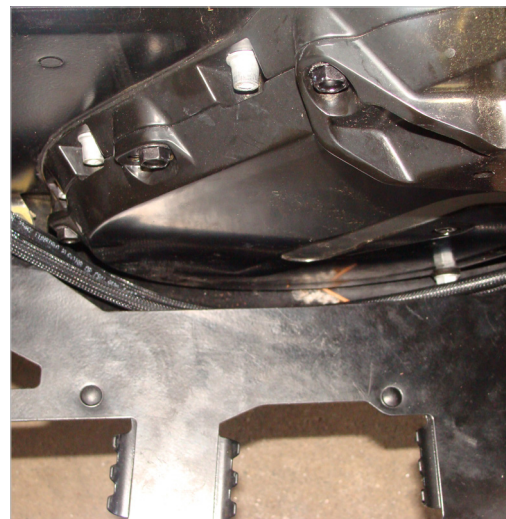

Figure 32
3. Tuck the wires down into the chain case cavity of the running board as shown (Figure 32).